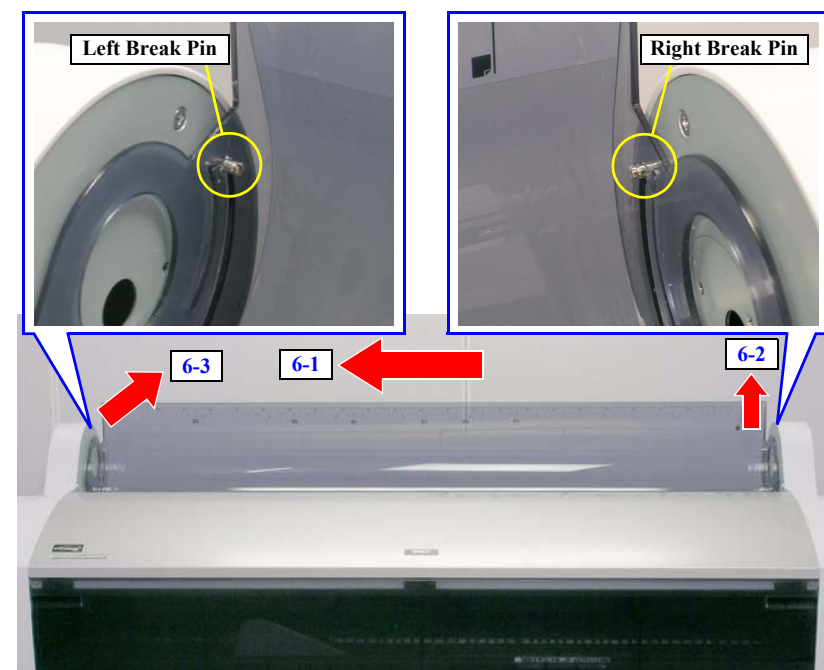

Figure 4-32. Removing the ROLL TOP COVER
6. Press the ROLL TOP COVER to the left side to release its right end from the right break pin, and remove the ROLL TOP COVER releasing its left end from the left break pin. *See Figure 4-32.*